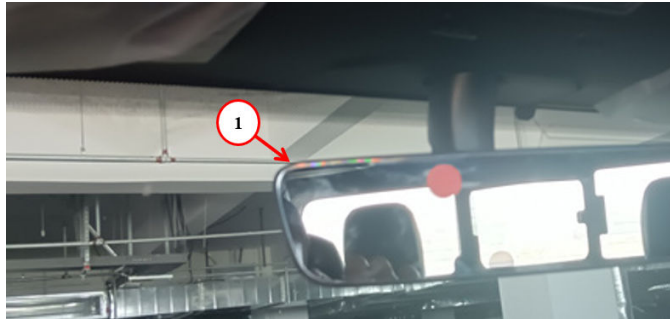

Fig. 4
18. Is the inside rear view mirror glass peeling / delaminating Fig. 4?